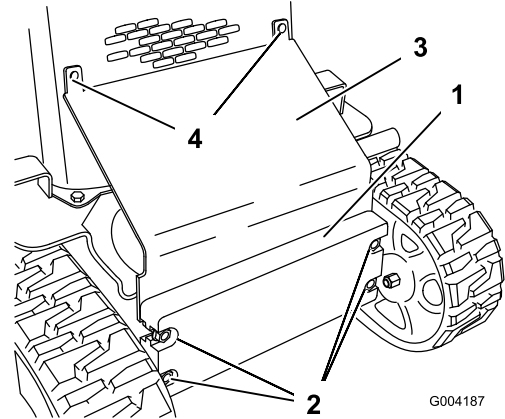

Figure 26
2. Loosen the bolts securing the front weight (Figure 26).
3. Remove the carriage bolts and nuts securing the heat shield (Figure 26).
- Slide the heat shield between the frame and the front weight and secure it to the front screen grill using the carriage bolts and nuts removed previously (Figure 26).
- Tighten the bolts securing the front weight (Figure 26).